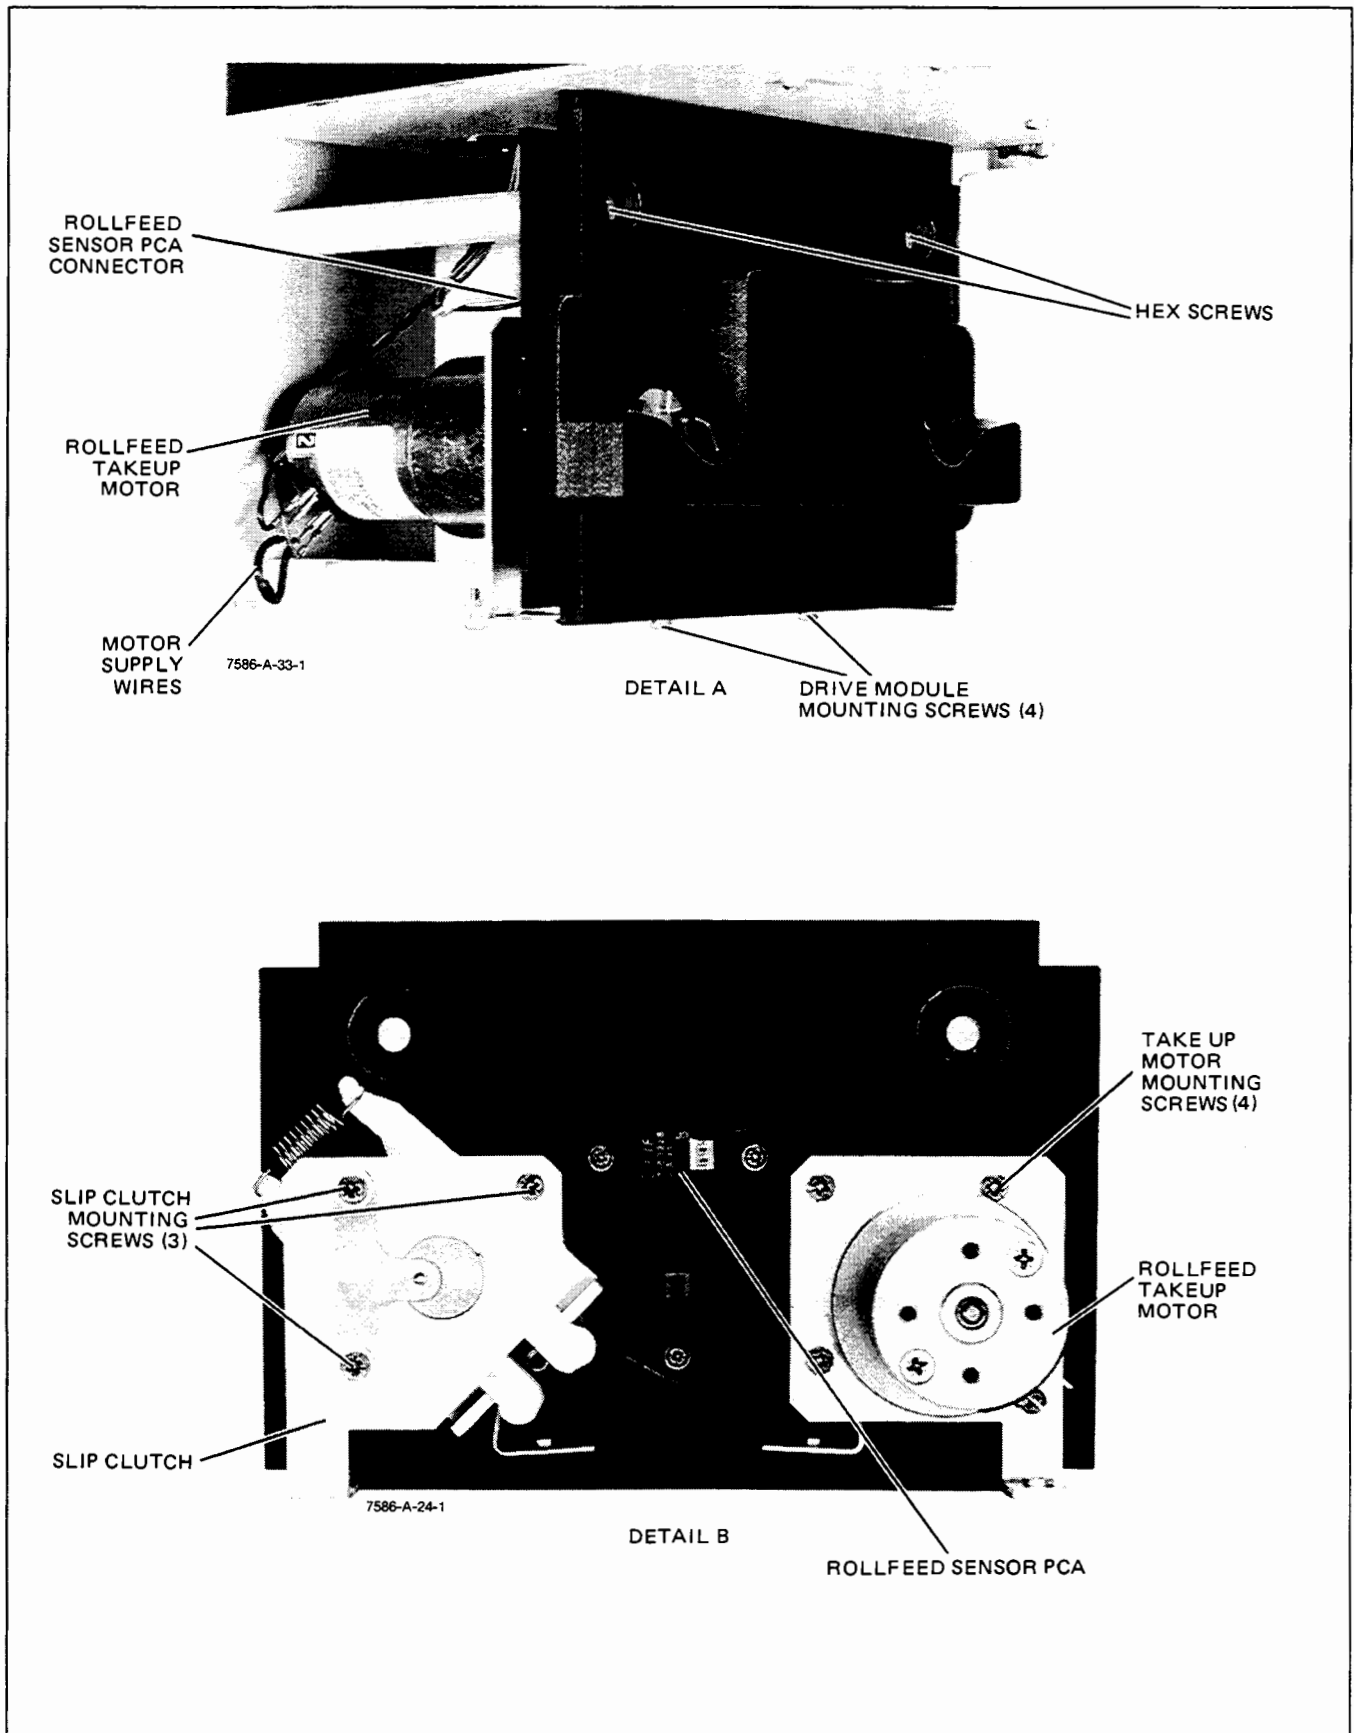

Figure 6-15. Roll Feed Drive Module Replacement
- c. Remove the Roll Feed Take-up Motor supply wires. See Figure 6-15, Detail A.
- i. To access the Take-up Motor, remove the four mounting screws. See Figure 6-15, Detail B.
- j. To access the Roll Feed Sensor PCA, remove the four Take-up Motor mounting screws and the three Roll Feed Sensor PCA mounting screws. See Figure 6-15, Detail B.
- k. To access the slip clutch, remove the three mounting screws. See Figure 6-15, Detail B.